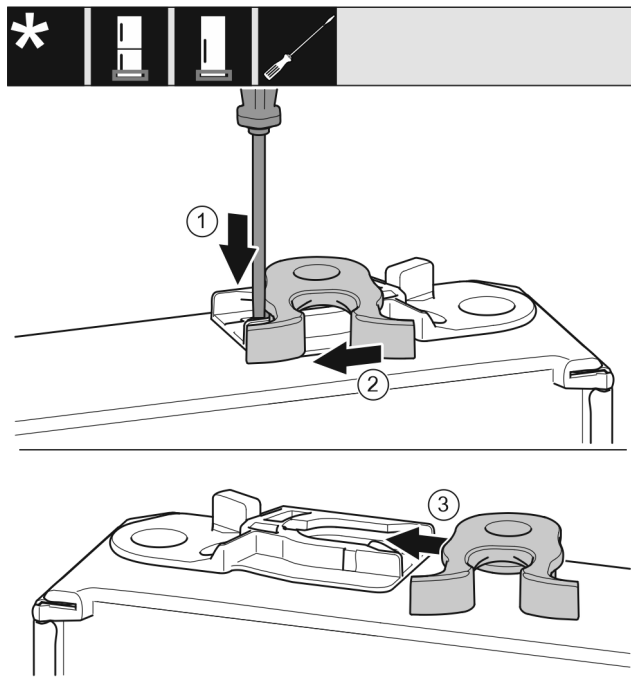

Fig. 22
- Use a slotted screwdriver to push the tab Fig. 22 (1) downwards.
- Pull the closing hook Fig. 22 (2) out of the guide.
- Insert the closing hook Fig. 22 (3) into the guide on the other side.